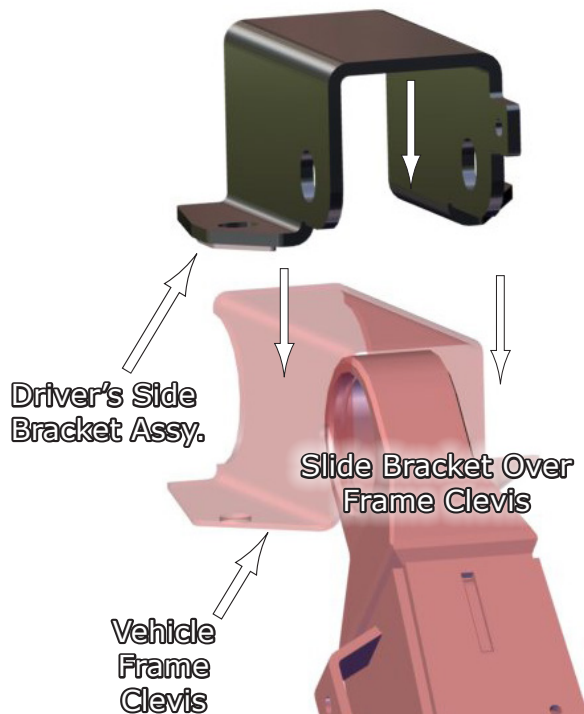
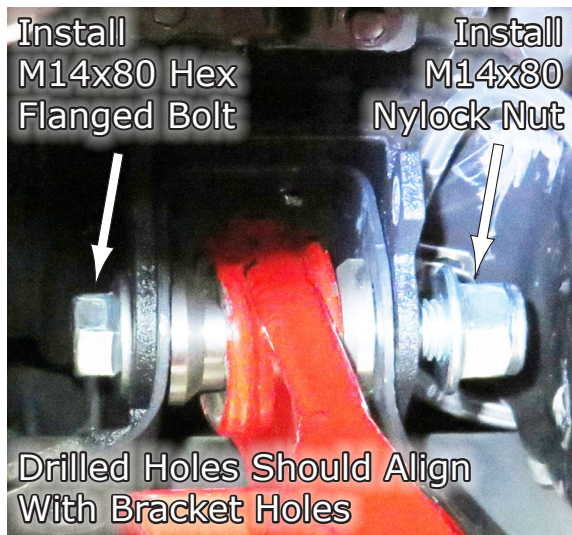

Fig.2a
Fig.2c
2.Next, take the **Driver's Side Bracket Assembly** and **Slide Over** the vehicle **Frame Clevis** where you removed the rivet from as shown in **Fig.2a-b**. Now **Install** the **M14x80 Hex Flanged Bolt & M14 Nylock Nut** as shown in **Fig.2c**, but keep loose until all hardware is installed. **Fig.2d** shows how the Bracket goes on the frame clevis along with the **New Brake Line Clip** and other **New Hardware** provided in your kit.